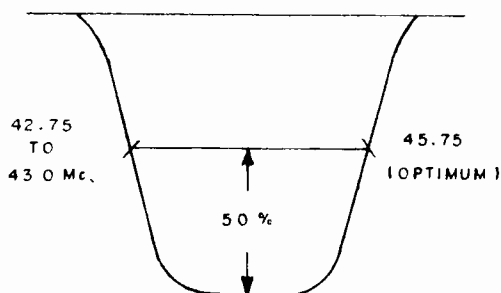

FIG 3 - IF ALIGNMENT CURVE
- Turn on MARKERS and check at 42.75 mc. and 45.75 mc. These markers should fall at about the 50% point on the slopes as shown in Fig. 3. Slight readjustment of individual IF coils may be necessary to duplicate the IF response curve of Fig. 3. Do not readjust the last IF stage (T203) to compensate as this state should be exactly 44 mc.